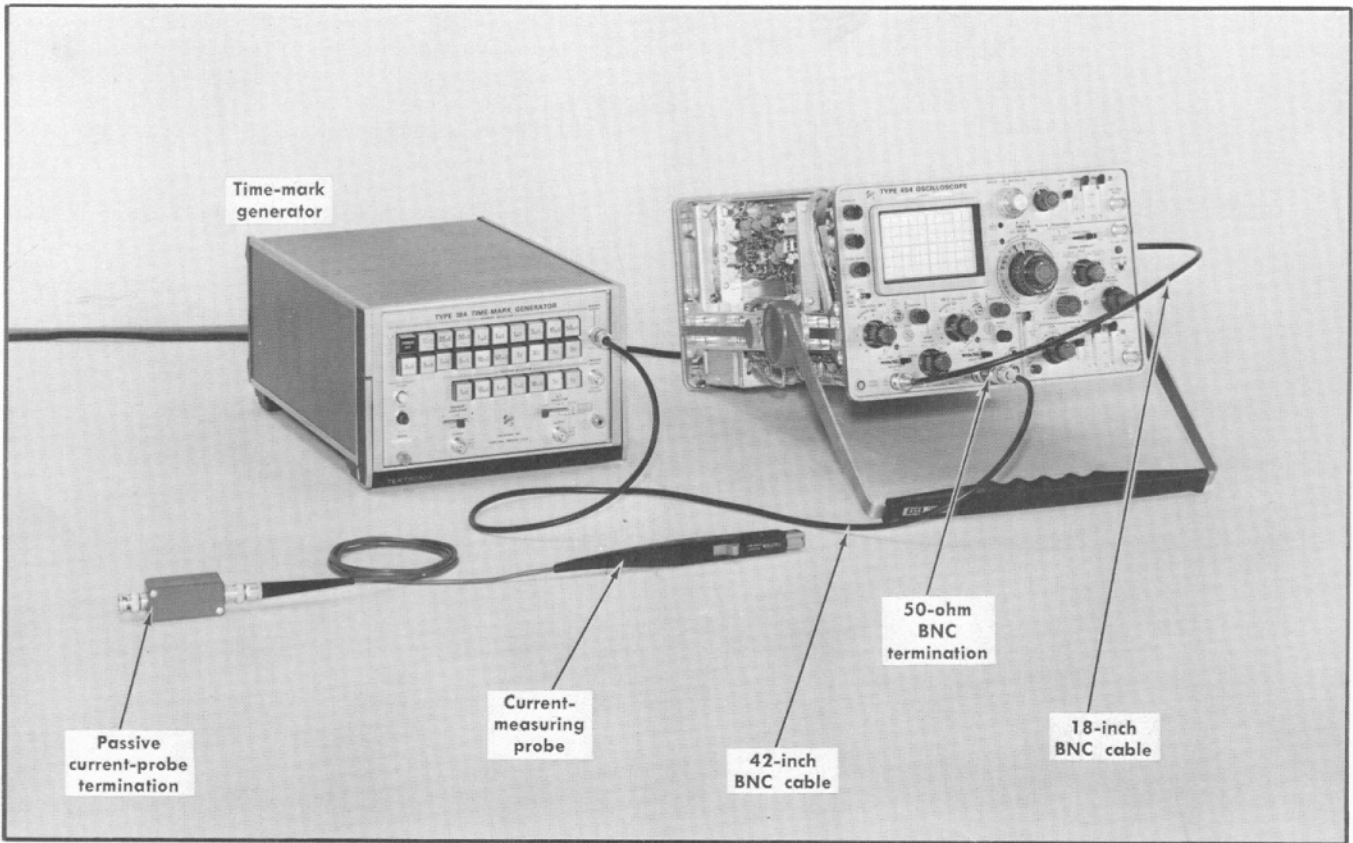

Fig. 6-62. Initial test equipment setup for steps 77 through 80.
77. Adjust Calibrator Repetition Rate ①
- a. Test equipment setup is shown in Fig. 6-62.